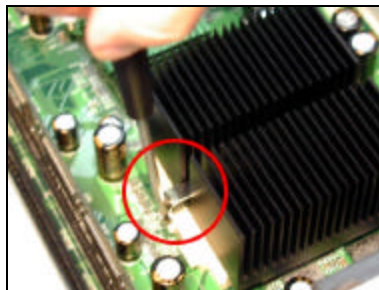

Figure 3.4.2
- iv. Clip the heat sink, using a screwdriver to hook the heat sink clip from the clips on the CPU socket, as shown in [Figure 3.4.2] below.